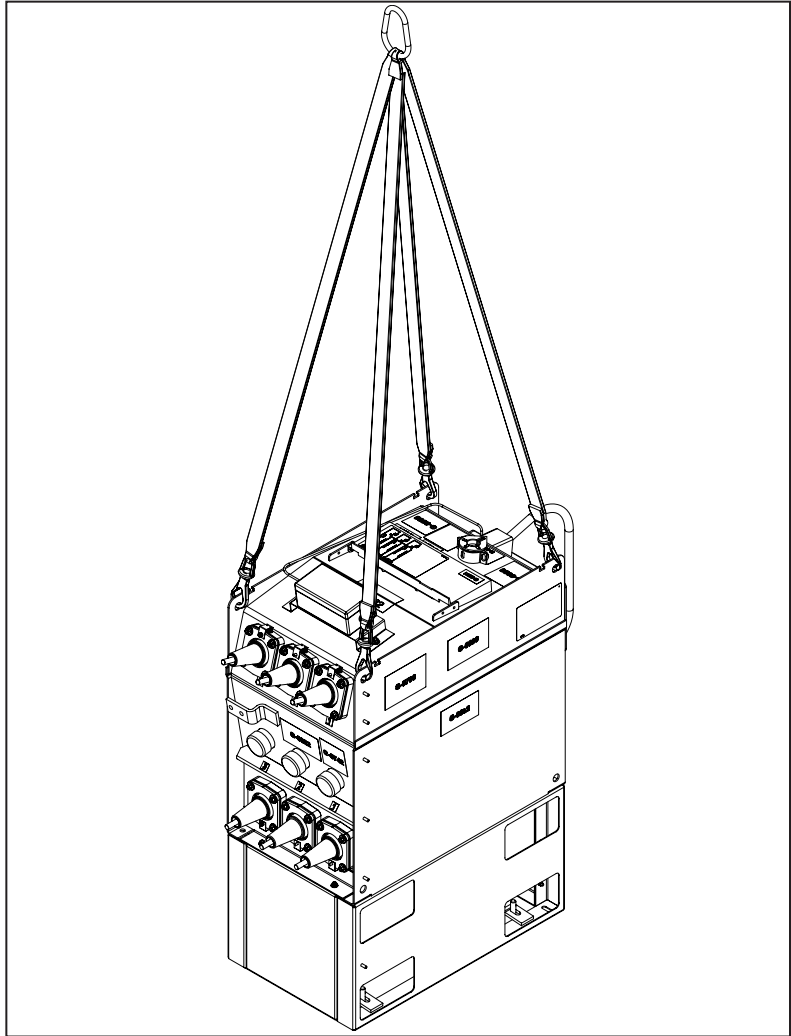

Figure 3. Hoist slings.
2. Arrange the hoist slings so as to distribute the lifting forces equally between the lifting tabs. See Figure 3.